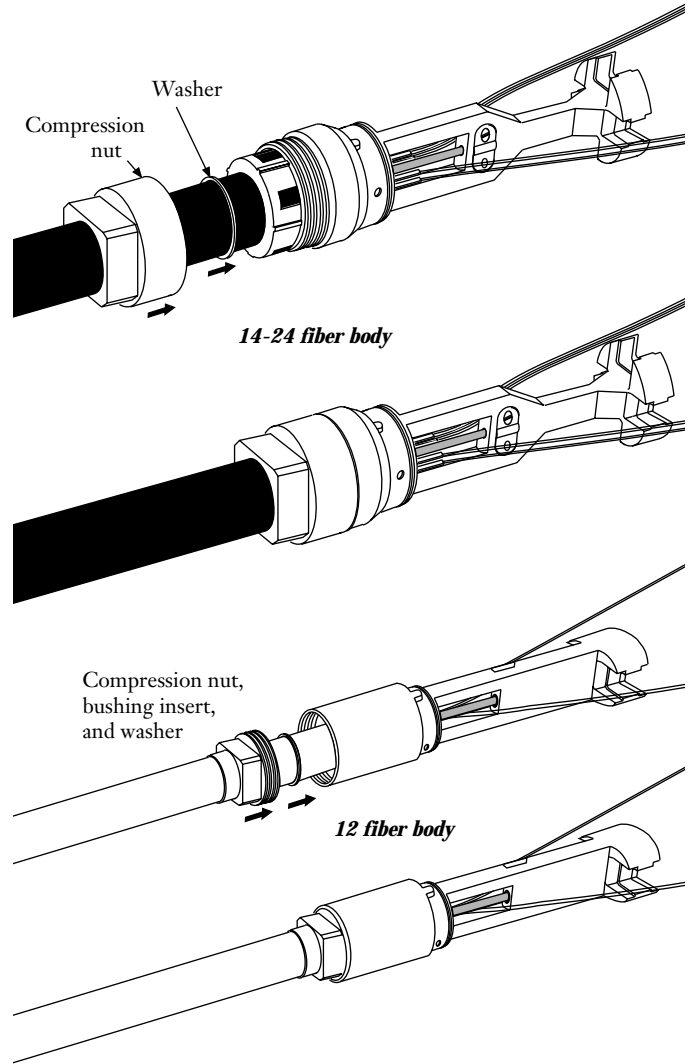

Figure 13
5.4 Slide the compression nut, bushing insert (if present) and the washer against the barrel of the fan-out body. Thread the nut into or onto the barrel of the fan-out body until it is hand-tight (Figure 13). Use an adjustable wrench to tighten the compression nut.